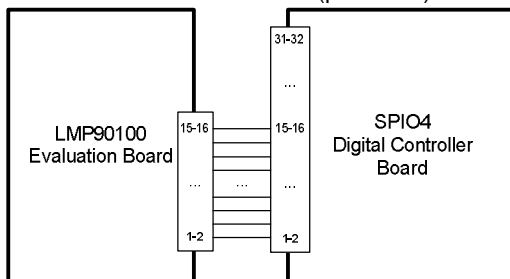

Figure 3 – LMP90100EB-to-SPIO-4 Board Connection
4. Connect the LMP90100EB's **JP12** to SPIO-4 Board's **J6** (pins 1-16). See Figure 3.
1. Connect the LMP90100EB's **JP12** to SPIO-4 Board's **J6** (pins 1-16) as seen in Figure 3.